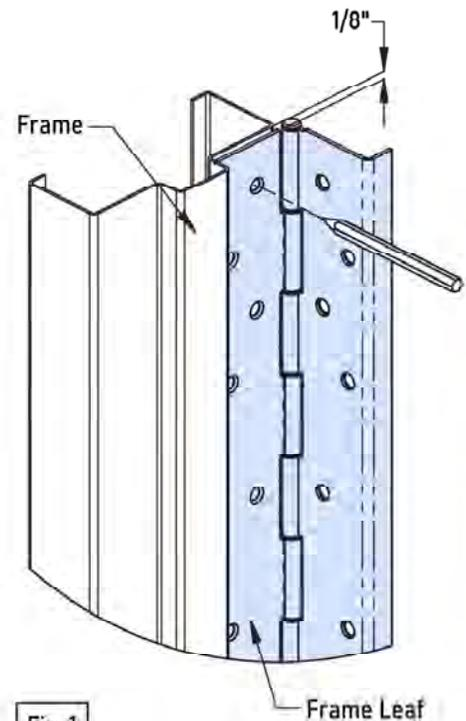

Fig. 1
- A. Place hinge frame leaf on frame. Position top of hinge 1/8" maximum below header. Place hinge firmly against face of frame (Fig. 1 & 2).